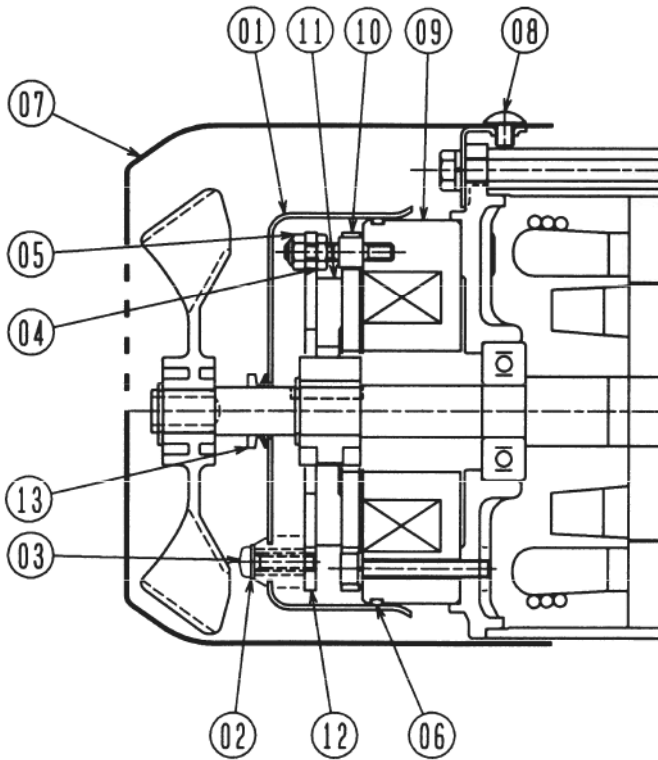

Fig.10
Fig. 10 shows the structure of the brake. The non-excitation braking method (spring-driven braking method) is used for all the models
2) Gap adjustment procedure (Refer to the structural drawing of the brake (Fig.10)).